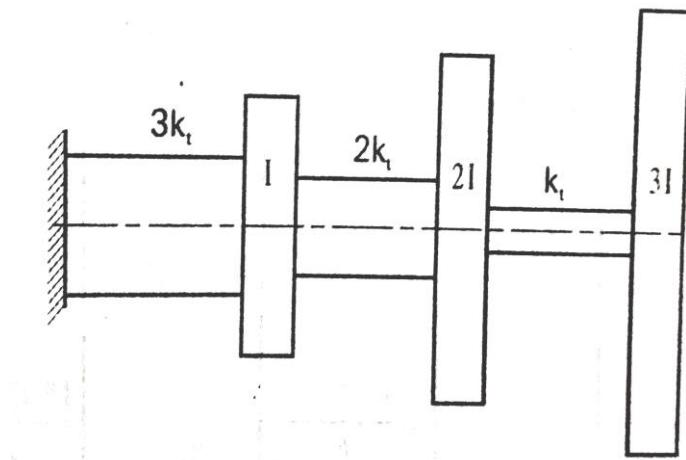

Figure 6b
b) Using Stodola's method, determine the lowest natural frequency of the torsional system shown in figure 6b